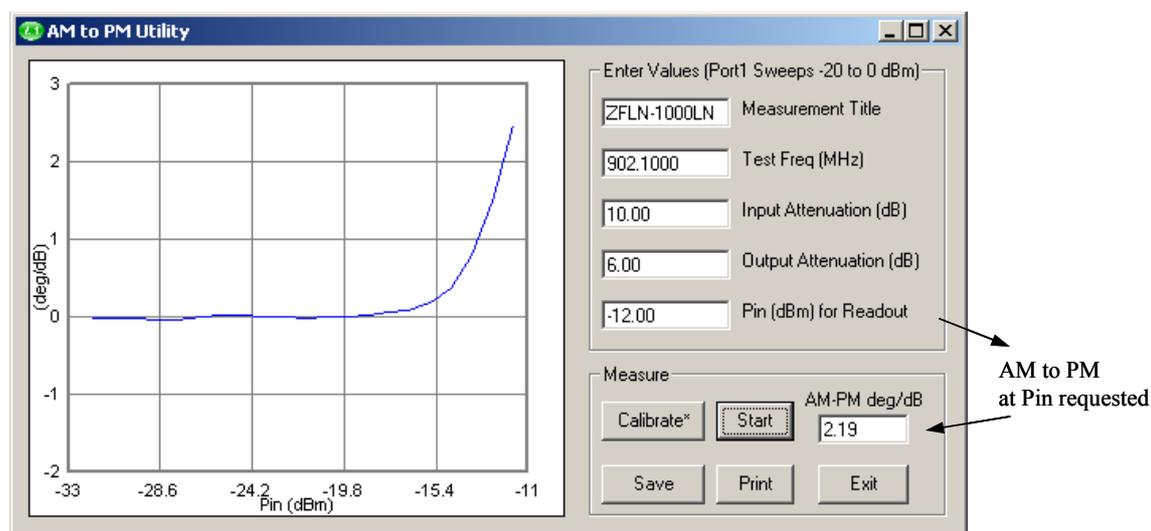

Figure 5.36 The AM to PM measurement utility control window
This utility allows the measurement of the AM to PM conversion factor of a DUT. Generally it is used for evaluating the linearity of active devices such as amplifiers. The utility is started up by going to the drop down menu under 'Utilities' near the top left corner of the main window. It is shown in Fig. 5.36.
- Call up AM to PM Utility (window shown in Fig. 5.36)